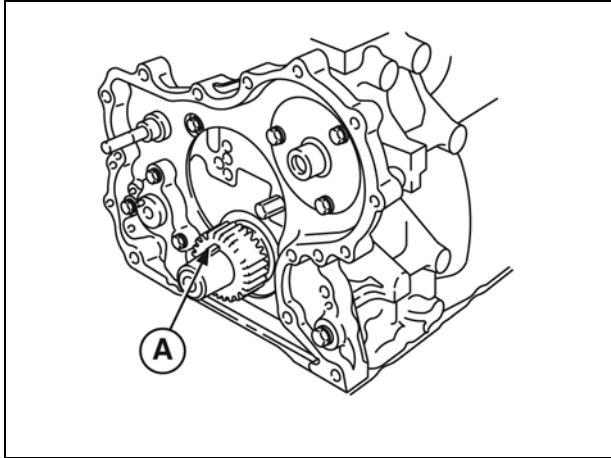

Figure 13
8. Rotate crankshaft so that they key is at the 12 o'clock position (**A**, Figure 13).